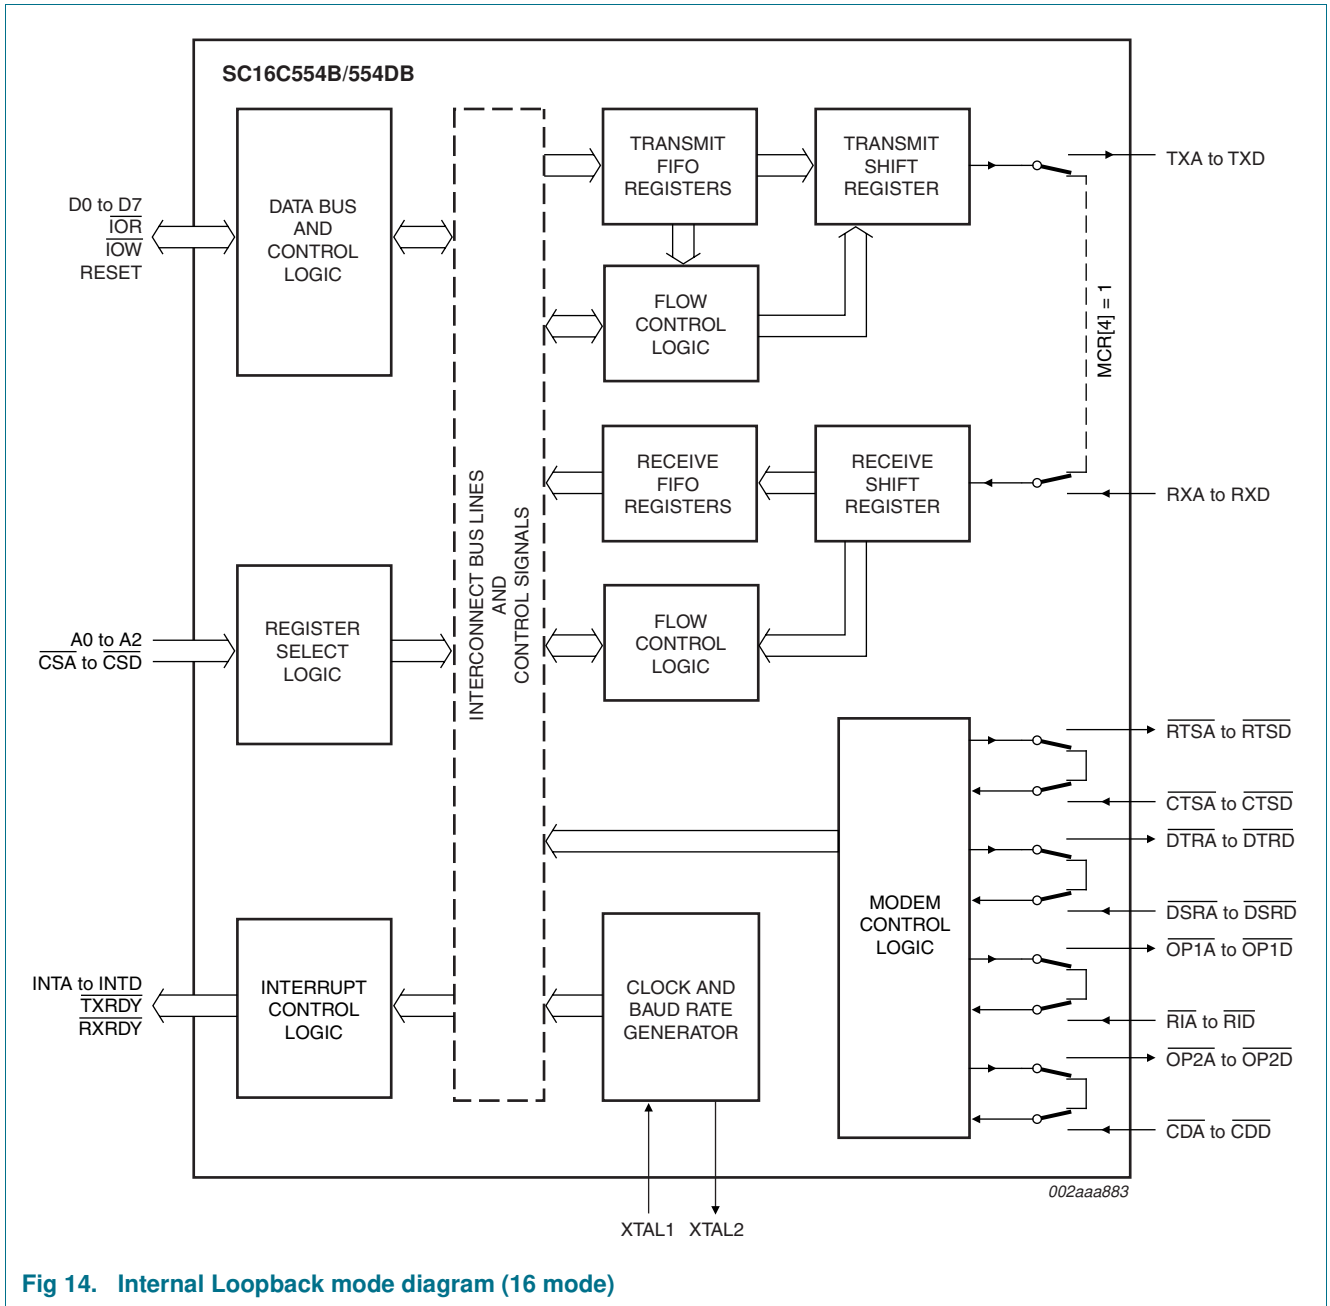

Fig 14. Internal Loopback mode diagram (16 mode)
The internal loopback capability allows on-board diagnostics. In the Loopback mode, the normal modem interface pins are disconnected and reconfigured for loopback internally. MCR[3:0] register bits are used for controlling loopback diagnostic testing. In the Loopback mode, $\overline{OP2}$ and $\overline{OP1}$ in the MCR register (bits 3:2) control the modem \overline{RI} and \overline{CD} inputs, respectively. MCR signals \overline{RTS} and \overline{DTR} (bits 1:0) are used to control the modem \overline{CTS} and \overline{DSR} inputs, respectively. The transmitter output (TX) and the receiver input (RX) are disconnected from their associated interface pins, and instead are connected together internally (see Figure 14). The \overline{CTS} , \overline{DSR} , \overline{CD} , and \overline{RI} are disconnected from their normal modem control input pins, and instead are connected internally to \overline{RTS} , \overline{DTR} , $\overline{OP2}$ and $\overline{OP1}$. Loopback test data is entered into the Transmit Holding Register via the user data bus interface, D0 to D7. The transmit UART serializes the data and passes the serial data to the receive UART via the internal loopback connection. The receive UART converts the serial data back into parallel data that is then made available at the user data interface D0 to D7. The user optionally compares the received data to the initial transmitted data for verifying error-free operation of the UART TX/RX circuits.